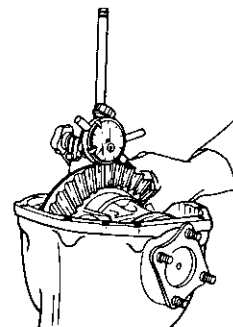

Fig. PD-33 Measuring the backlash of ring gear and pinion
6. Measure ring gear-to-drive pinion backlash with a dial indicator and adjust it to 0.13 to 0.18 mm (0.0051 to 0.0071 in). See Figure PD-33.